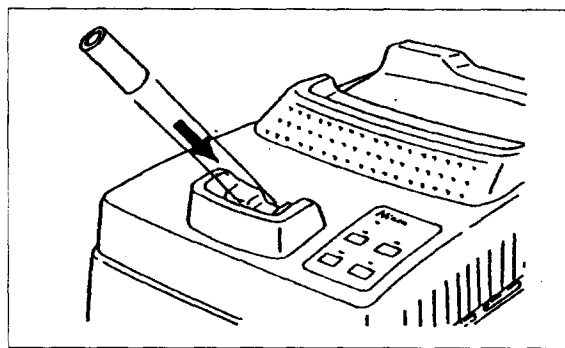

Figure 4-5
(12) Measure the model eye which was provided with the unit. Make sure that the model eye and measuring window are clean. If either are dirty, carefully, clean them referring to sections "4) Cleaning the measuring window" and "5) Model eye" (page 56) in "8. Maintenance".
① Place the model eye on the model eye mount located on the station (see Figure 4-5).
② Refer to "6. Measurement Method" (page 26) for measuring the model eye.